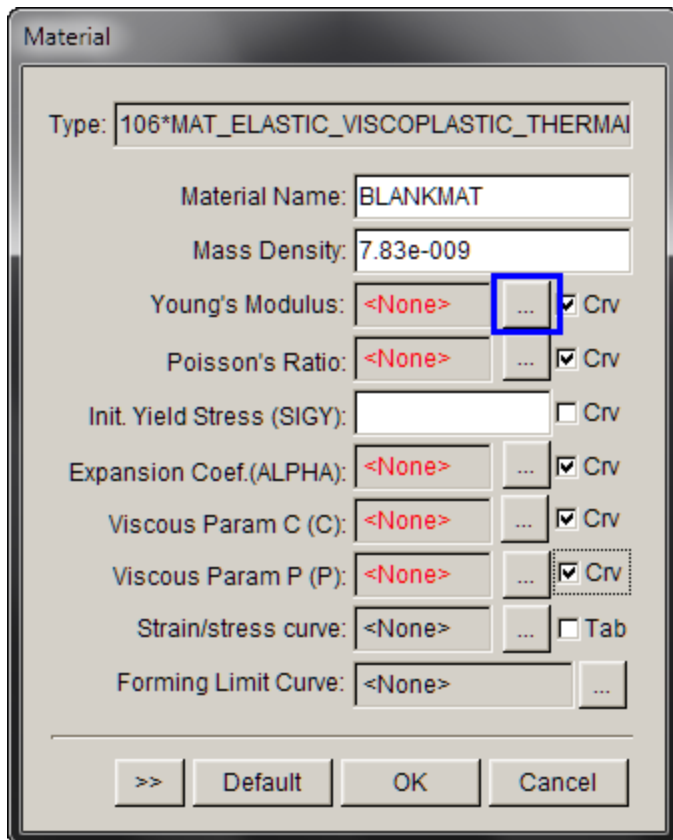

Figure 14
5. Click the Young's Modulus button illustrated in Figure 14.